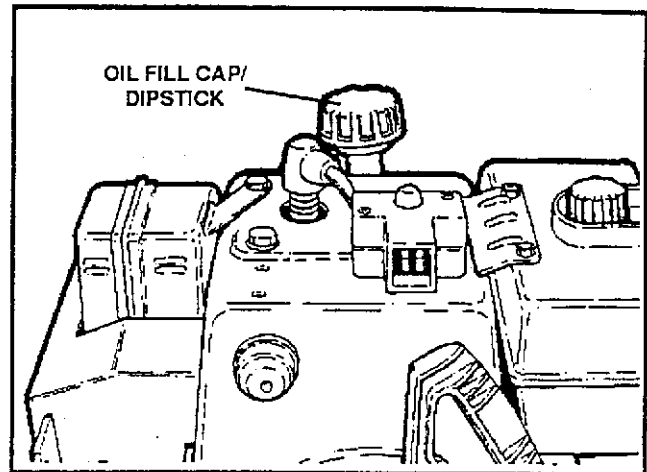

FIG. 5-MAINT
Change the oil after first two hours of operation and every (25) hours thereafter or at least once a year if the snow thrower is not used for (25) hours (See FIG. 5-MAINT).